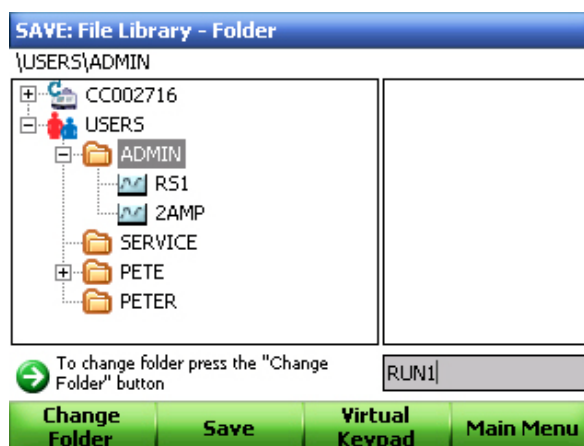

Figure 41. Entering a protocol name.
- Click **Edit Filename** (F1) and type a new name in the box (Figure 41).
- Click **Save** (F2) (Figure 41).